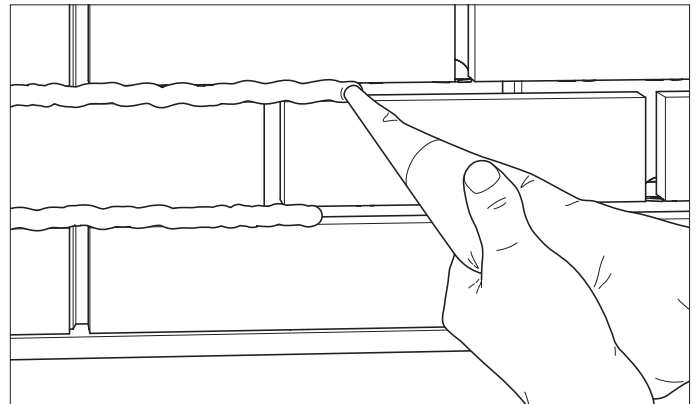

FIGURE 17
- Work your way up in a pyramid fashion. Place the bag or gun at horizontal angle of approximately 45 degrees to the wall and fill 4 or 5 linear feet of bed (horizontal) joints first. Squeeze and twist the bag for an even and uniform flow of mortar from the tip of the bag. Slightly over-fill joints (so that mortar bulges out) to counter drying shrinkage and ensure full joints after striking (see Figure 17). Fill head (vertical) joints after every 3 or 4 bed joints.